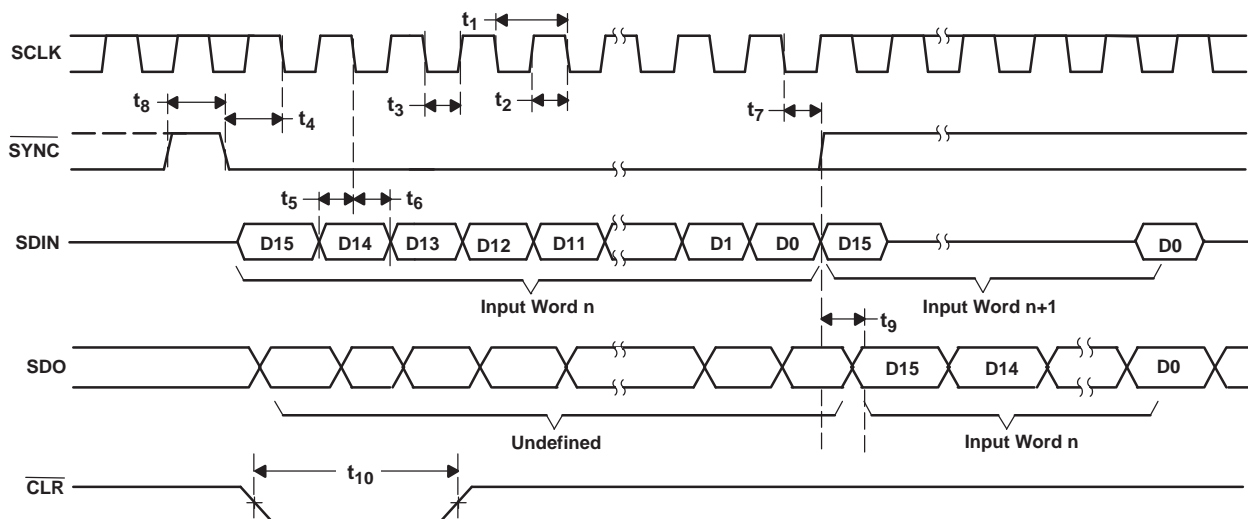

Figure 1. Serial Write Operation Timing Diagram
(1) All input signals are specified with $t_{\text{R}} = t_{\text{F}} = 1\text{ns}$ (10% to 90% of V_{DD}) and timed from a voltage level of $(V_{\text{IL}} + V_{\text{IH}})/2$.
(2) See Figure 1, Serial Write Operation timing diagram.
(3) Maximum SCLK frequency is 50MHz at $V_{\text{DD}} = 2.7\text{V}$ to 5.5V .
(4) SCLK falling edge to $\overline{\text{SYNC}}$ rising edge time should not exceed $(t_1 - 10\text{ns})$ in order to latch the correct data.